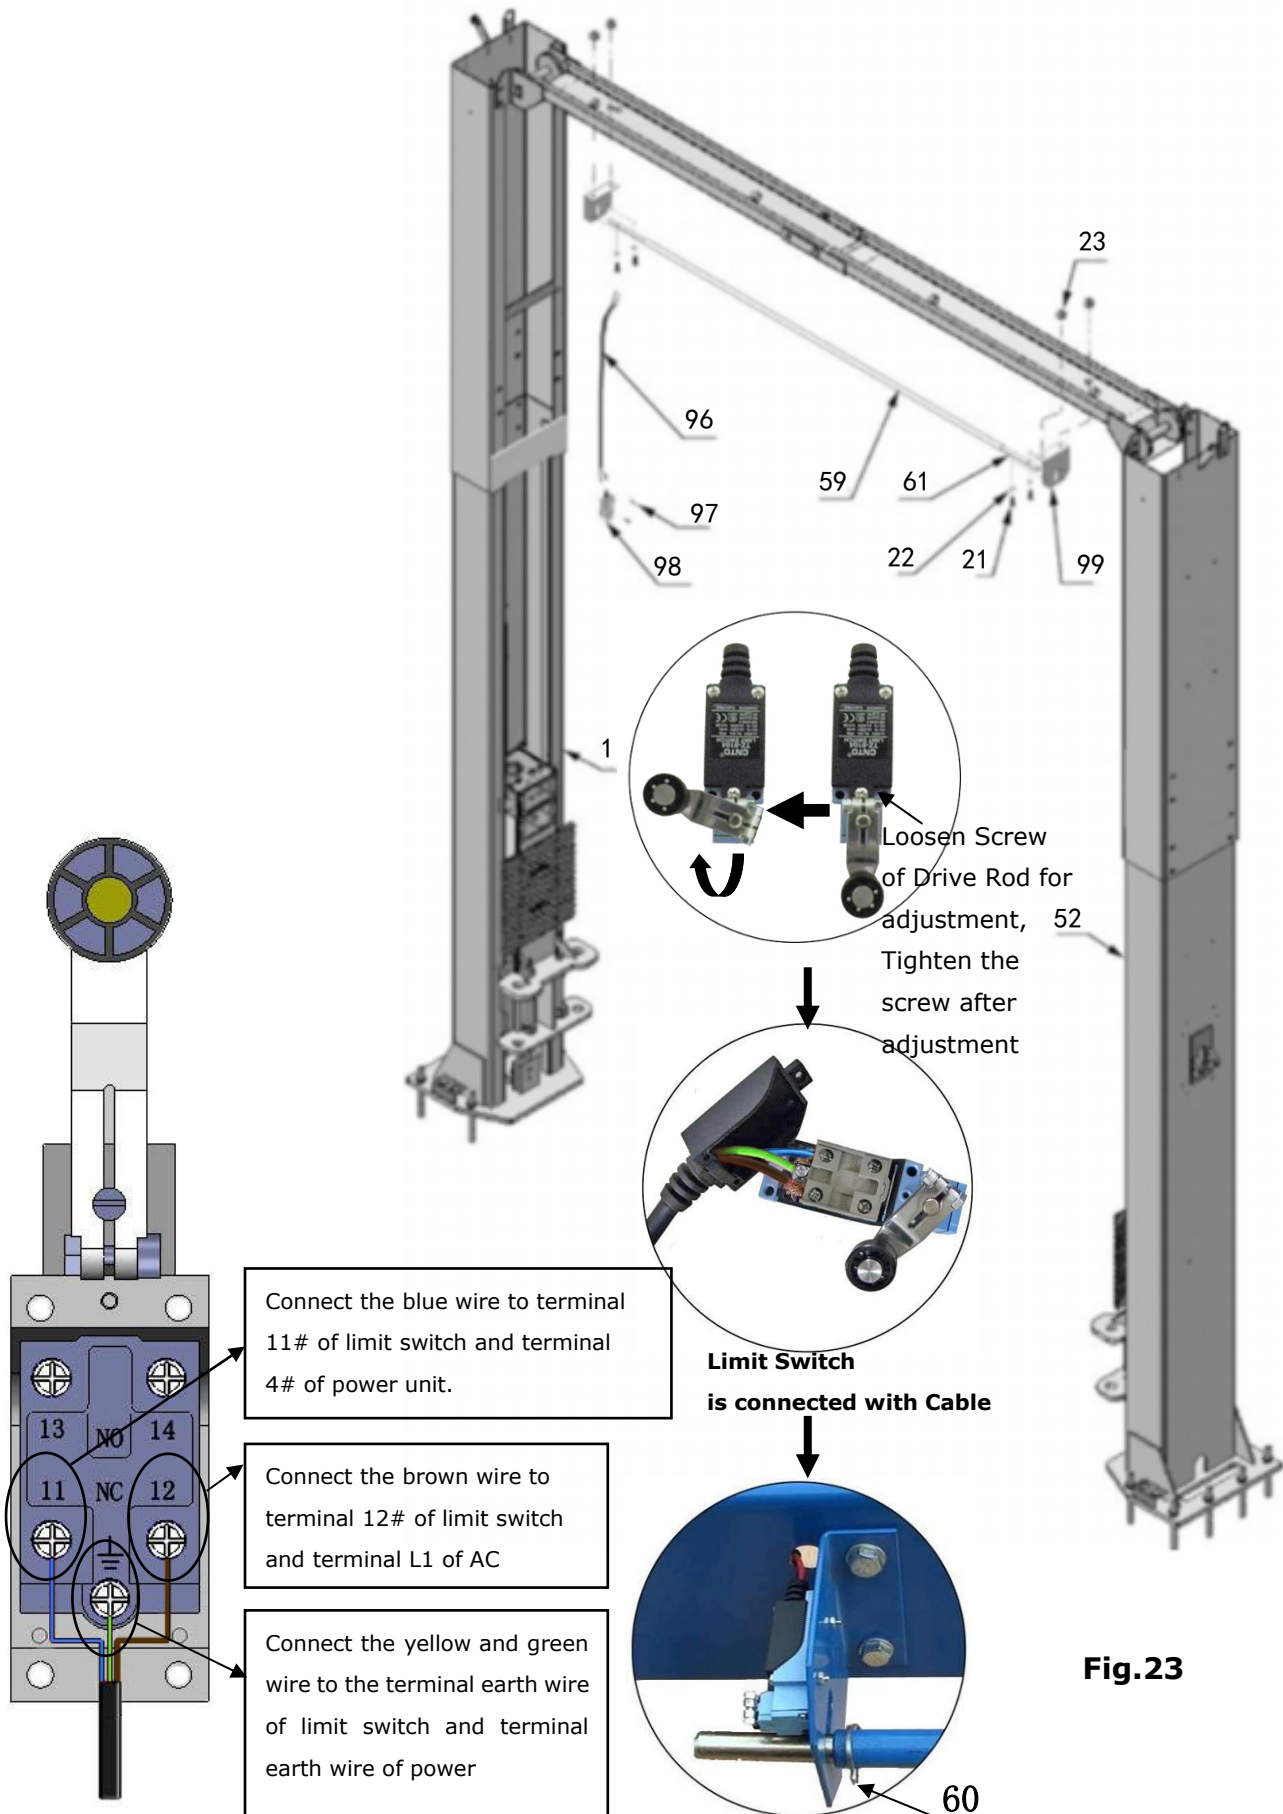

Fig.23
I. Installing the limit control bar and limit switch (See Fig. 23).